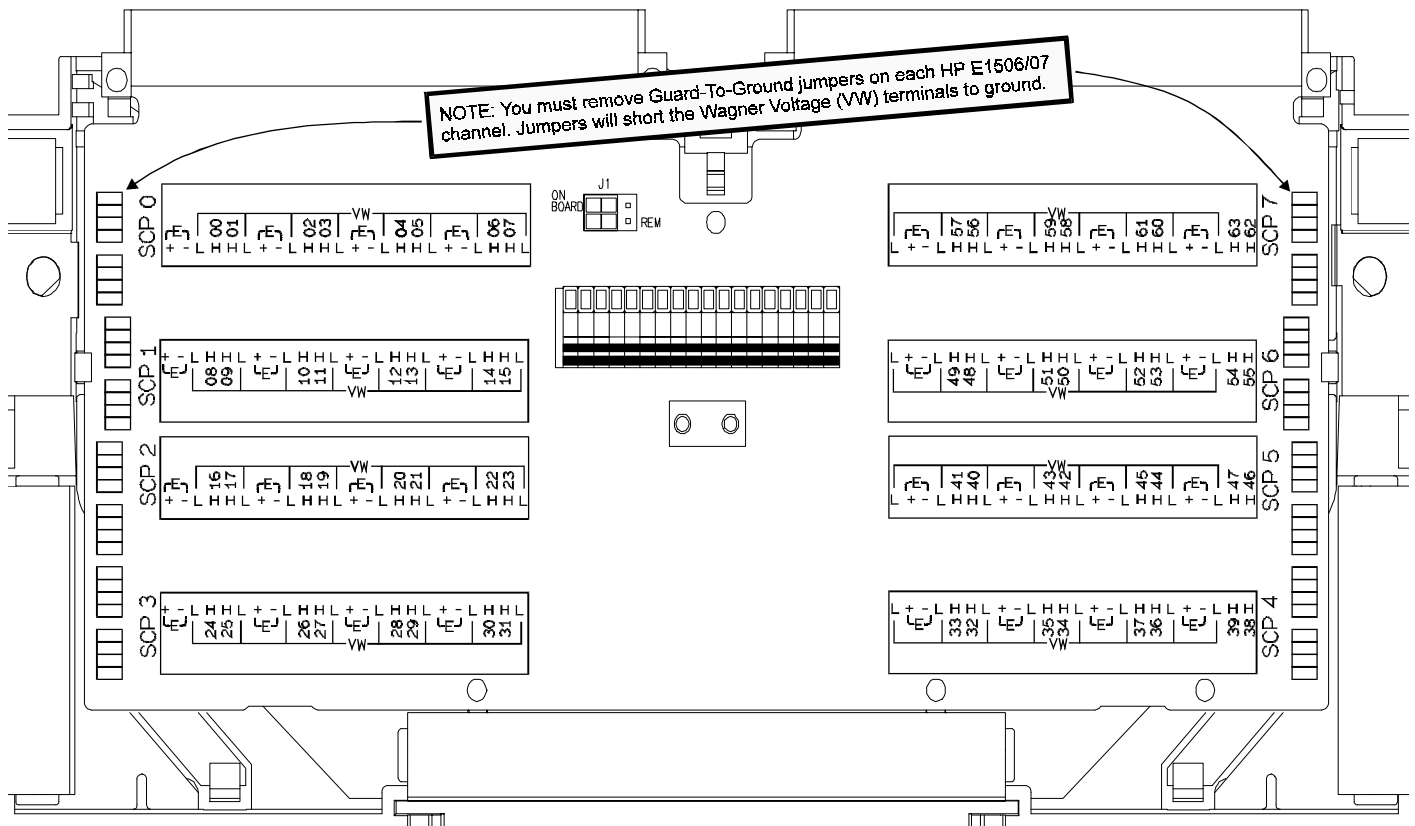

Figure 5 HP E1506/07 C-Size Terminal Module Connections
- For HP E1413C and above Terminal Modules, use stickers for HP E1506/07 SCPs. The connections are shown in Figure 5.